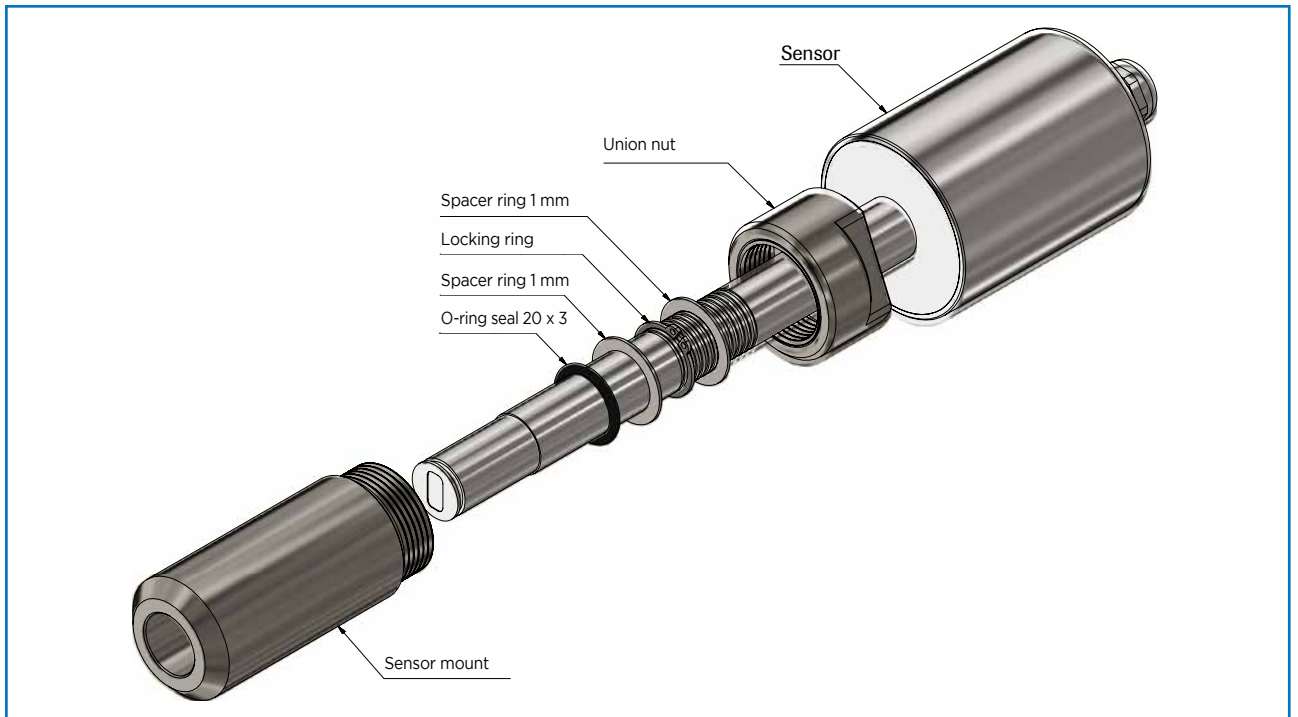

Fig. 10: Install the sensor mount and the sensor
- Now insert the sensor into the sensor mount as shown in Figure 10.